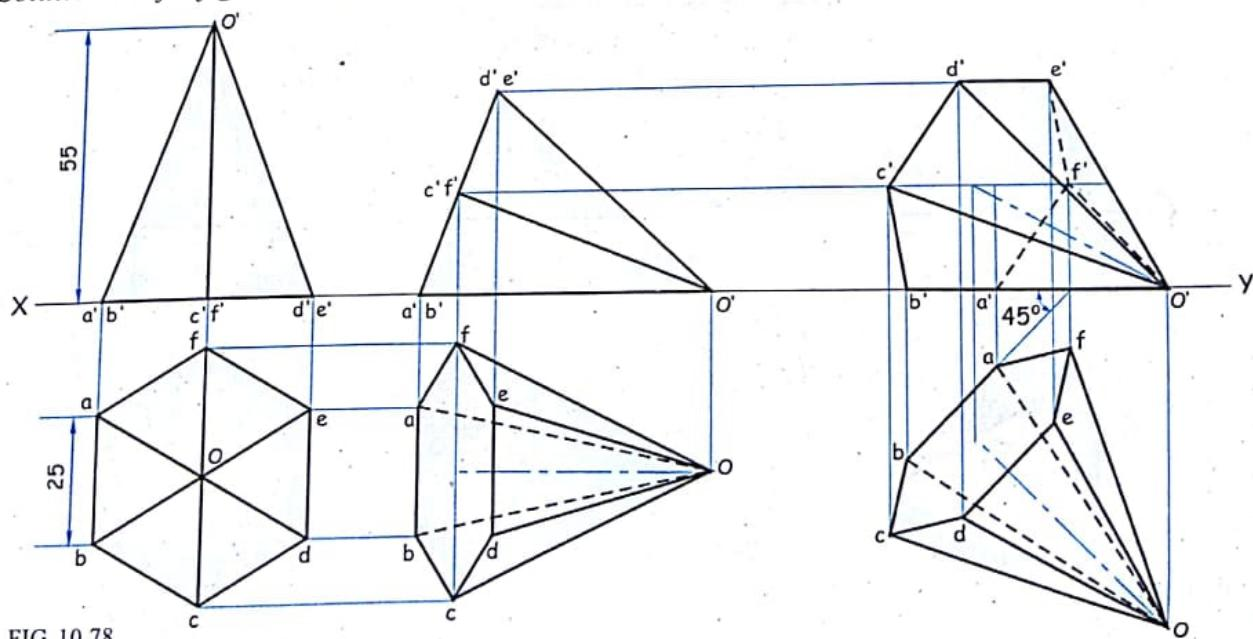

FIG. 10.78
**Solution :** Refer figure 10.78. It is self explanatory.